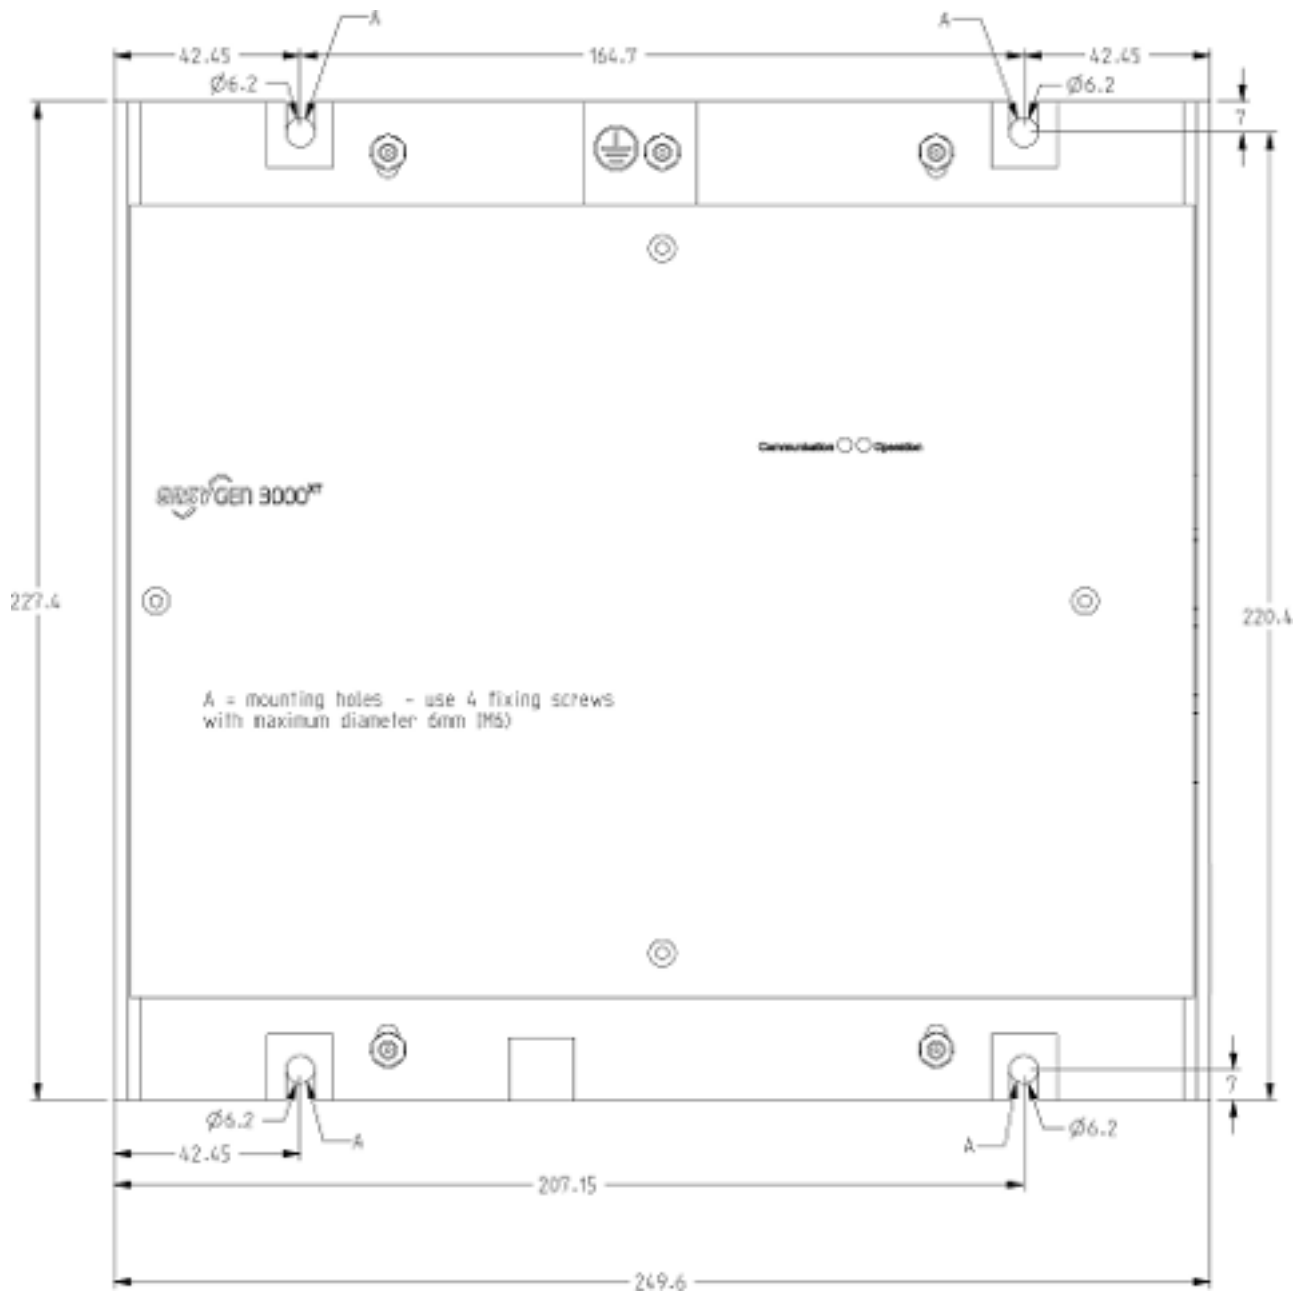

Fig. 6: Sheet metal housing - drill plan
1. ➤ Drill the holes according to the dimensions in Fig. 6 (dimensions shown in mm).